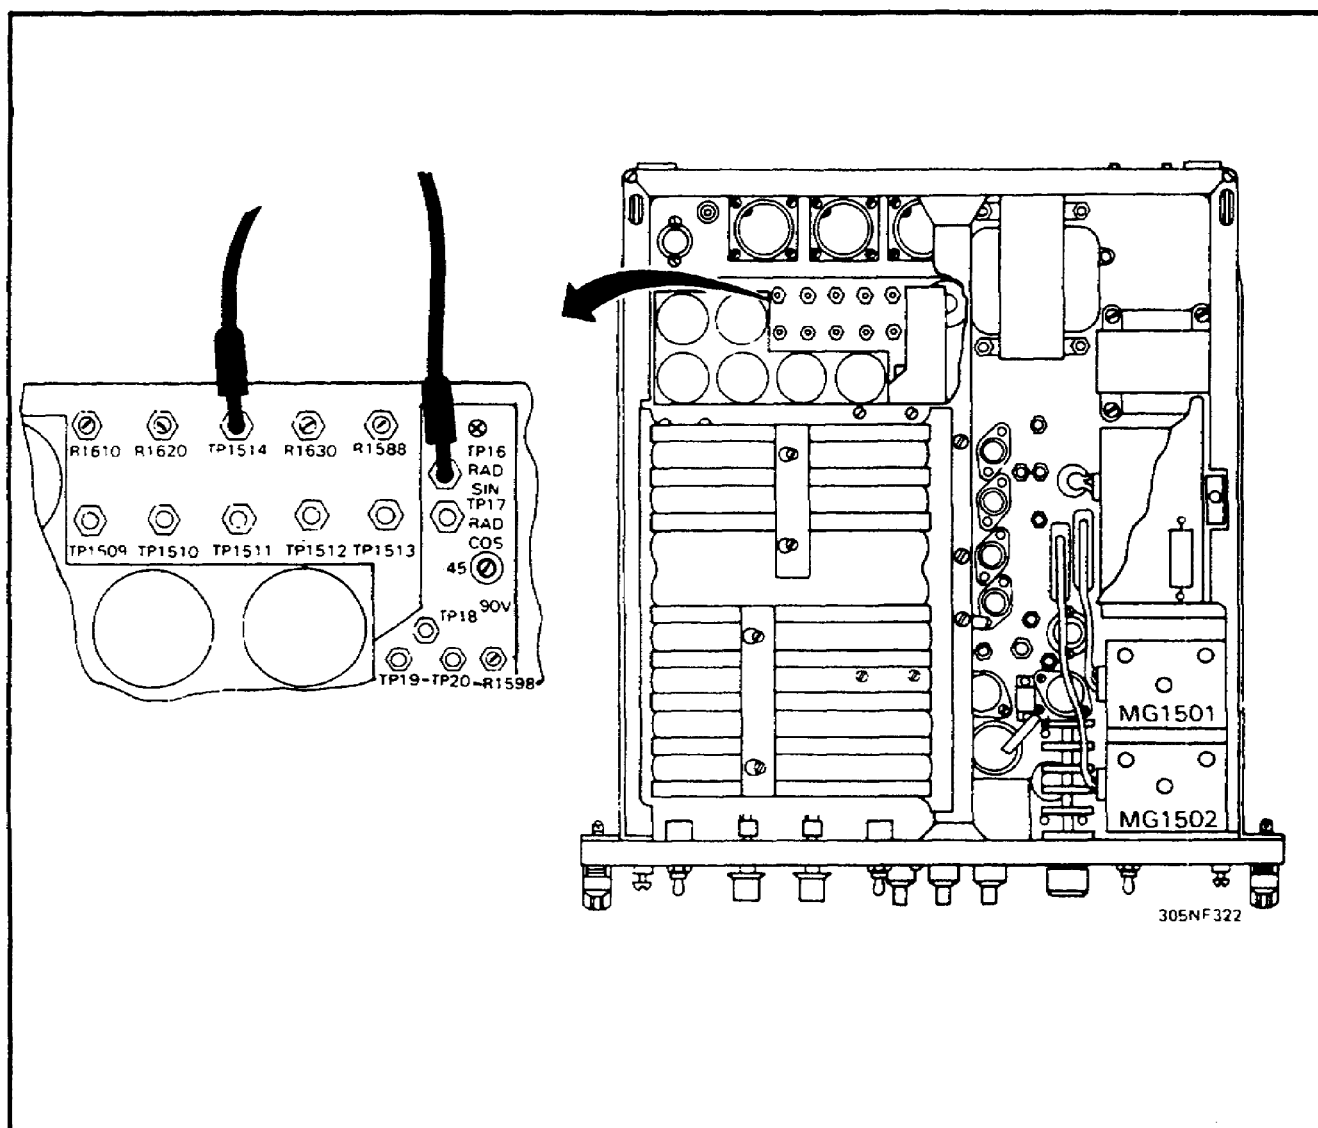

Figure 16. Radar sine test connection.
i. Connect multimeter between the rad sin test point TP-1516 and ground test point TP-1514. (See Figure 16.)